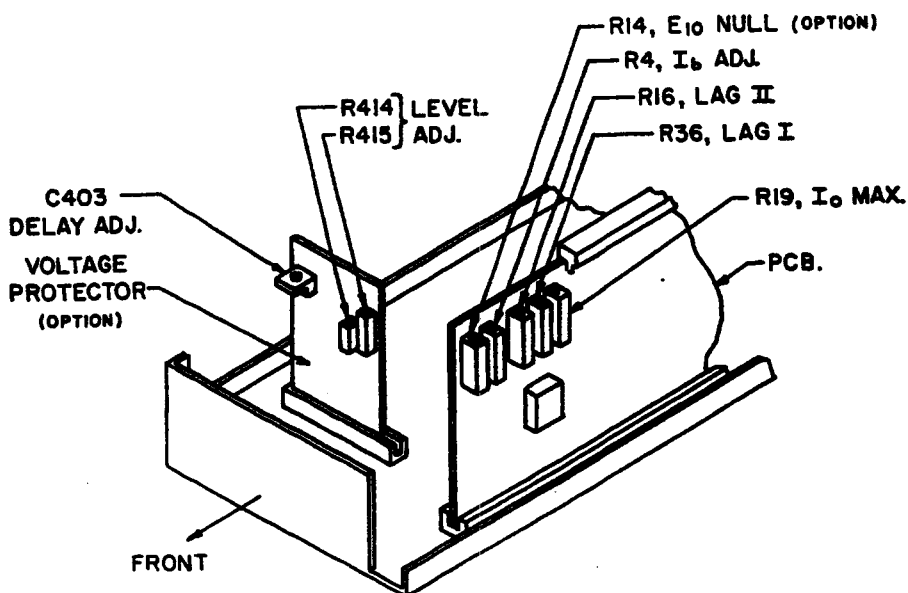

FIG. 2-1 LOCATION OF INTERNAL ADJUSTMENTS (NOT APPLICABLE TO "-HS" MODELS)
- c) INTERNAL ADJUSTMENTS AND CALIBRATIONS: Refer to FIG. 2-1 and TABLE 2-1.
- d) (Models suffixed "-VP" only) Check the "crowbar" action of the overvoltage protector by first adjusting the VOLTAGE CONTROL to about one quarter of the rated output voltage. Locate the "V_{limit}" adjustments (R414,415, refer to FIG. 2-1) and turn the "Coarse" adjustment (R415) slowly counter clockwise until the output voltage goes suddenly to zero as observed on the panel meter. Turn AC POWER SWITCH "off". Turn the coarse "V_{limit}" control (R415) fully clockwise again.